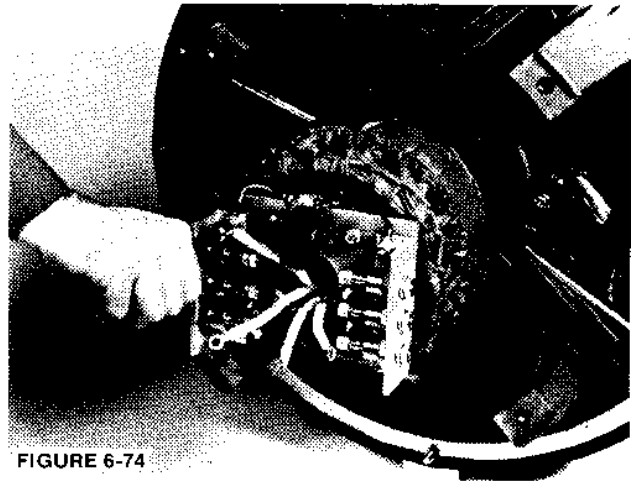

FIGURE 6-74
2. Observe the polarity markings and connect the main rotor leads to the rectifier assembly. (Figure 6-74.) Torque the nuts to 4 ft-lb (5.4 N-m).